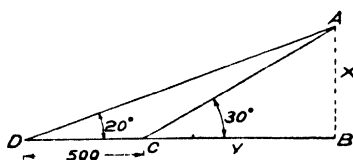

Fig. 19.
1. Suppose we wish to find the height of a hill, where A of Fig. 19 represents the highest point. From C, a point in the same level with the base of the hill, $\angle ACB$ is read 30° . A line CD in the same level is measured back 500 ft. and $\angle ADB$ read 20° . Let $AB = x$, and $CB = y$.